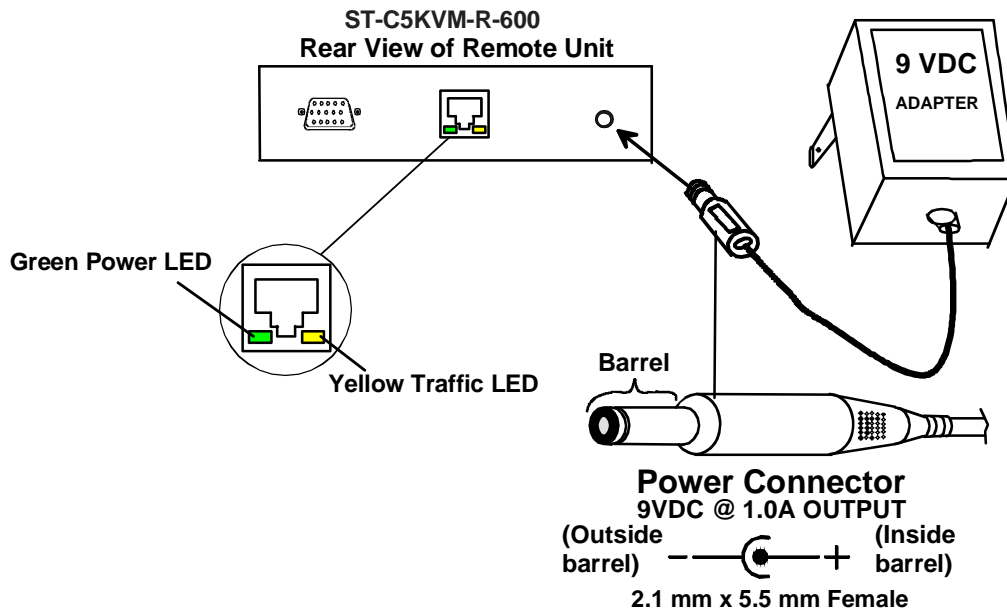

Figure 17- Connect the AC adapter to the Remote Unit
2. Connect each AC adapter power connector to the 9VDC ports on the Remote and Local Units. Plug each AC adapter into a power outlet. The green LED on the RJ45 connector of both the Remote and Local Units should illuminate, indicating that a proper power connection has been made to them. (See Figure 17.)
Note: The Traffic LED on each RJ45 connector will illuminate anytime data traffic is passing between the Local and Remote Units, indicating proper CAT5 cable connection and communication. (See Figure 17)